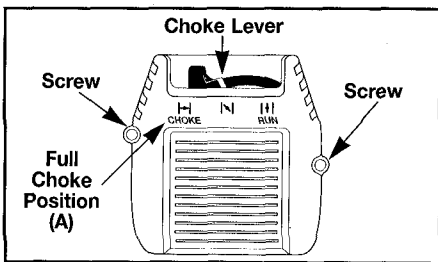
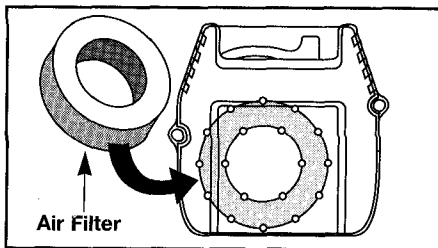

Fig. 29
Fig. 30
NOTE: The choke lever must be in the full "CHOKE" position (A) (Fig. 29) to remove and install the air filter cover.
1. Remove the screws on each side of the carburetor/air filter cover assembly (Fig. 29). Remove the air filter cover.
2. Remove the air filter (Fig. 30).
6. Reinstall the filter (Fig. 30), air filter cover, and screws (Fig. 29).